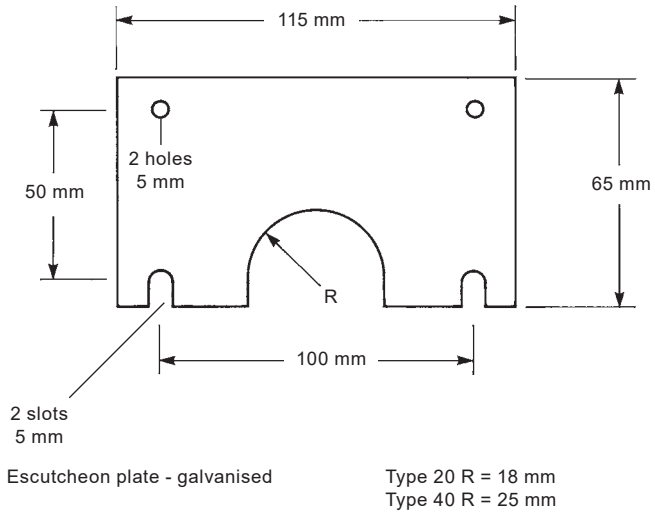

Fig. 6
- 3.1.4 If escutcheon plates are to be used (see Figure 6, page 11).
The small clearance between the duct and the lance can be sealed either with a proprietary high temperature mastic, or by use of the Type 20 or Type 40 escutcheon plates - see Figure 6, page 11.